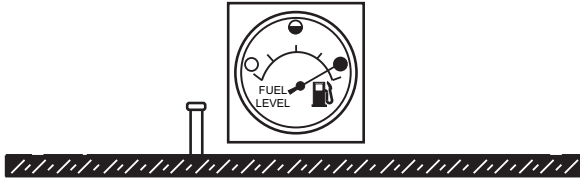

Figure 33. Full Fuel Tank
- NEVER overfill the fuel tank** — It is important to read the fuel gauge when filling the trailer fuel tank. **DO NOT** wait for fuel to rise in the filler neck (Figure 33).